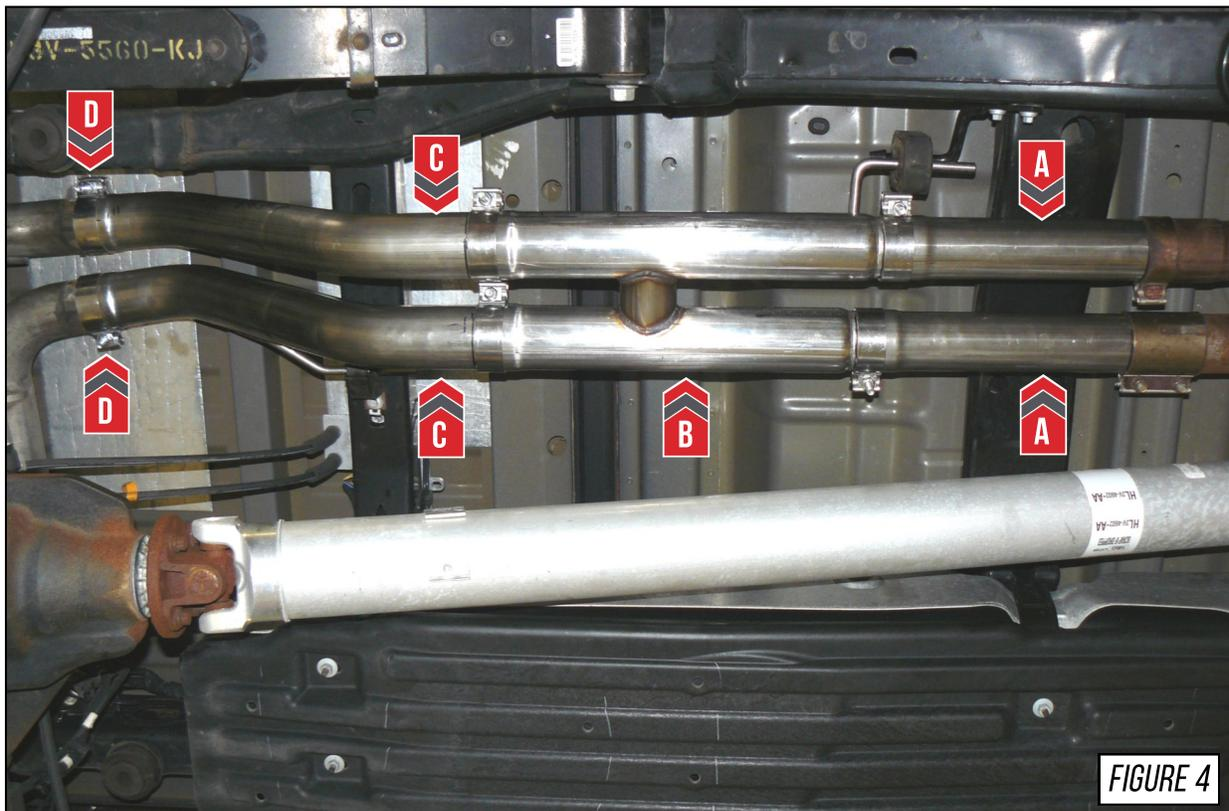

FIGURE 4
Install the adapter tubes (**parts B36**) using the original clamps, as shown by **Arrows A** in **Figure 4**.
Install the H-pipe section (**part B31**) using two (2) of the included 2.75" Accu-Seal clamps, as shown by **Arrow B** in **Figure 4**.
Install the driver (**part B32**) and passenger (**part B33**) axle tubes using two(2) of the included 3.00" Accu-Seal clamps, shown by **Arrows C** in **Figure 4**.
Reinstall the factory tailpipes using the remainder of the included 3.00" Accu-Seal clamps, shown by **Arrows D** in **Figure 4**.
Use the last 2.75" Accu-Seal clamps to install the H-pipe (**part B31**), shown by **Arrows B** in **Figure 4**. Install the driver side axle tube (**part B32**) using one (1) of the included 3.00" Accu-Seal clamps, as shown by **Arrow C** in **Figure 9**.